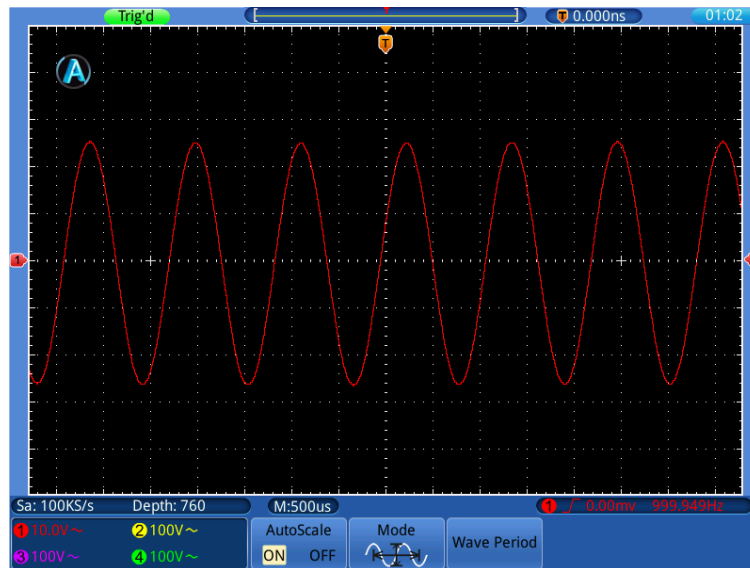

Figure 0-14 Autoscale Horizontal-Vertical multi-period waveforms
4. Select **Wave Period** in the bottom menu, select  in the right menu, shown as *Figure 0-14*.